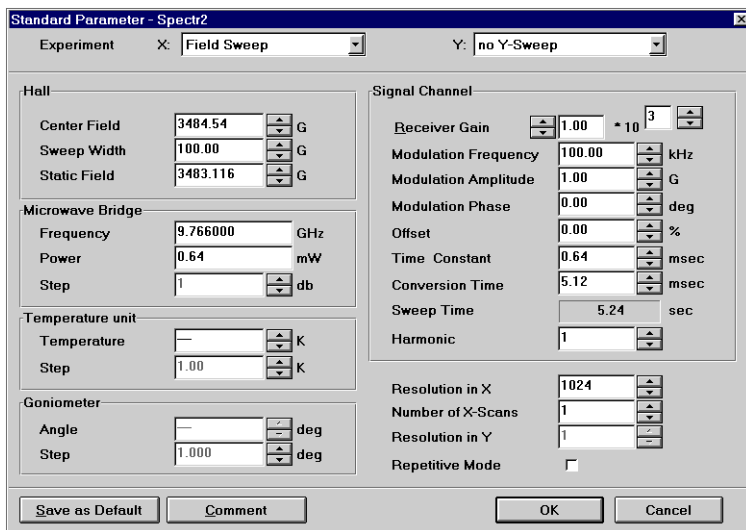

Figure 8-8 Parameters for a signal channel calibration.
9. **Adjust some parameters.** After centering the DPPH sample, most of the parameters should be fairly close to what is needed for the calibration routine. Check the values in the Standard Acquisition Parameter dialog box and modify them so that they correspond to the values in Figure 8-8. The Center Field value may be somewhat different from what is displayed in Figure 8-8, but the Sweep Width must be 100 Gauss.